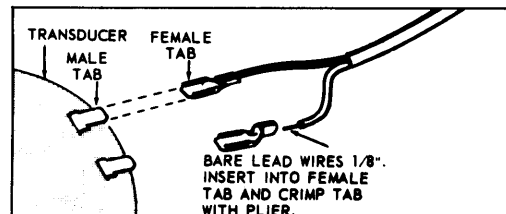

Figure 1. Connection of Wire to Transducer
5. Connect the wire from the sound source to the Rolen-Star Transducer, by using the female tabs furnished with each Rolen-Star Transducer (FIGURE 1).
4. Connect the wire from the sound source to the Rolen-Star Transducer, by using the female tabs furnished with each Rolen-Star Transducer (FIGURE 1).